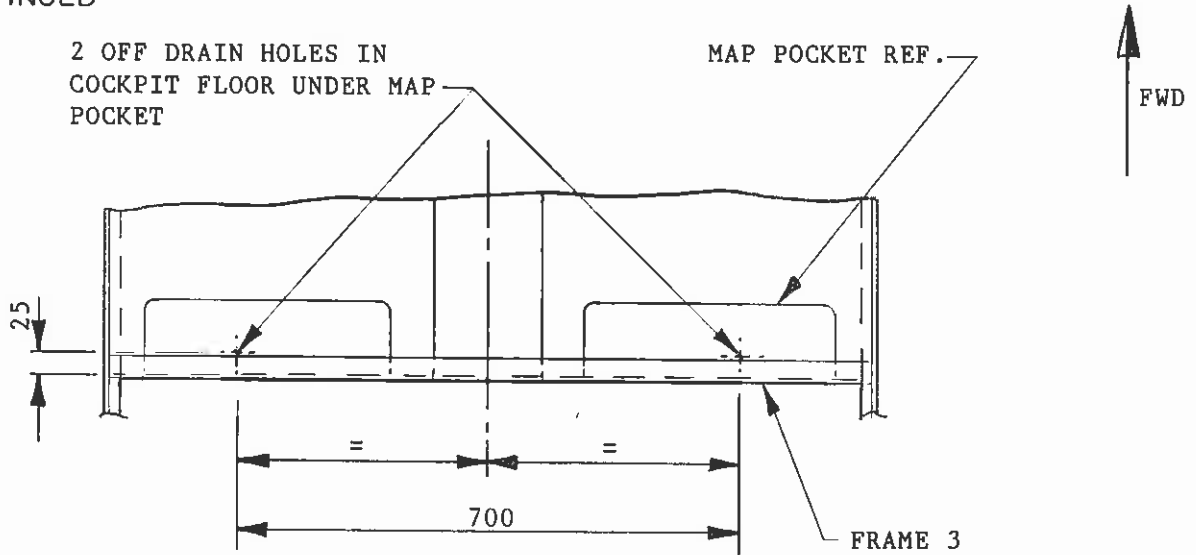

FIG 1
1. Locate 2 off drain holes beneath floor covering and drill appropriate holes in covers. Ref. Fig. 1.